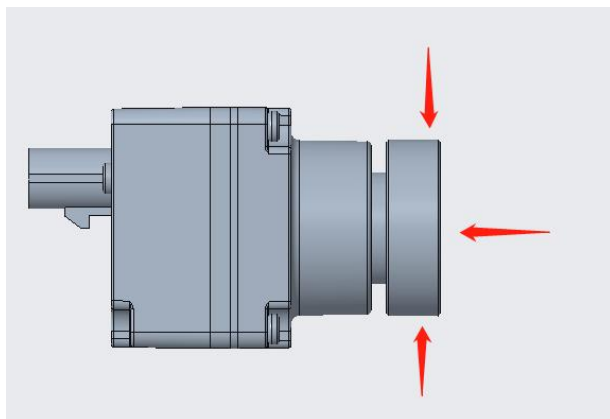

Figure 5
- The lens cannot be subjected to force, as shown in Figure 5.